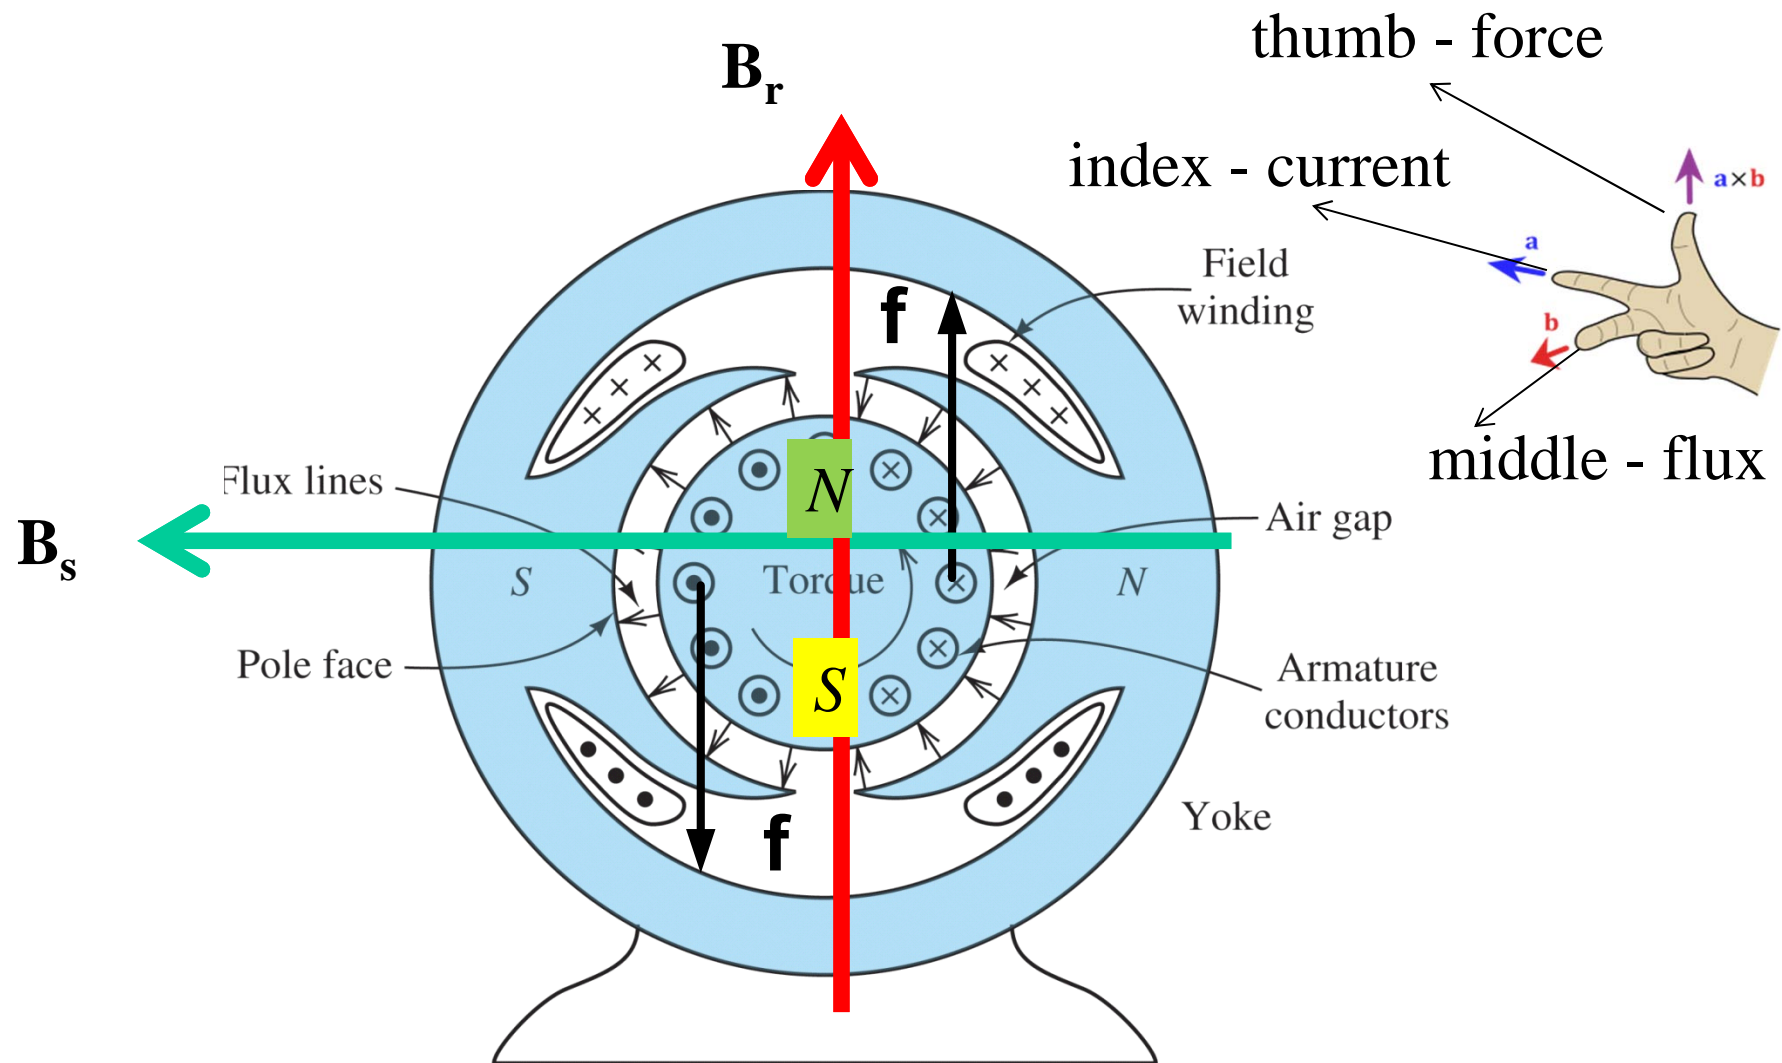

Fig. 5.10 Cross section of a 2-pole DC machine.
- DC machine contain a **cylindrical stator** with an even number of magnetic poles established by the permanent magnets or field windings as shown in Fig. 5.10.
- The cross sectional view of a 2-pole machine with the flux-lines in the air-gap is shown in Fig. 5.10.
- Moreover, the flux-density is more or less constant magnitude over the surface of each pole face as shown in Fig. 5.10.